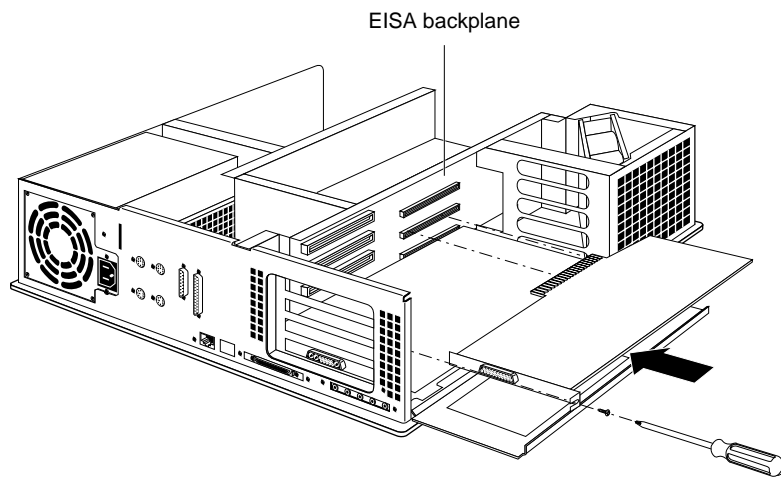

Figure 1-9 Installing the New XL Board in the Indigo² Chassis
- Align the metal extension on the left of the board with the second slot from the bottom on the chassis. At the same time align the right edge of the board with the metal groove on the right of the chassis, as shown in Figure 1-9.